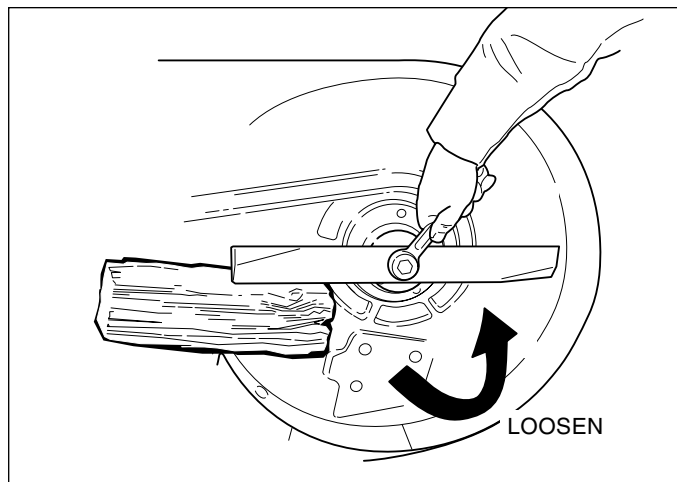

Figure 15. Removing the Blade
2. To remove blade for sharpening, use a wood block to hold blade while removing the blade mounting bolt (Figure 15).